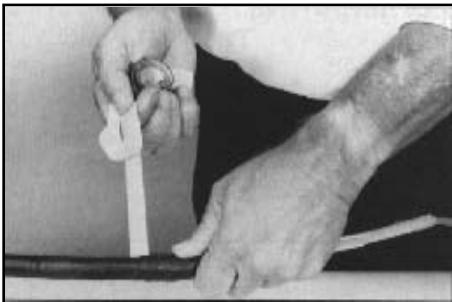

FIGURE 15 - APPLYING LOCK-TAPE SEALANT
7.05 Apply required number of half lapped layers of 3/4" (19.05 mm) LOCK-TAPE Sealant around the cable in the area coated with C-Cement. Stretch tape while applying. (Figure 15)